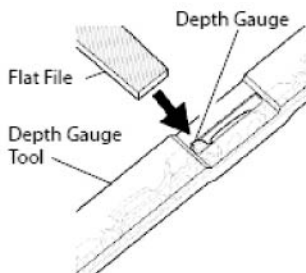

Fig.17
1. Place depth gauge tool (.025") firmly across top of two cutters. Make sure depth gauge enters slot in depth gauge tool (See Fig.17).